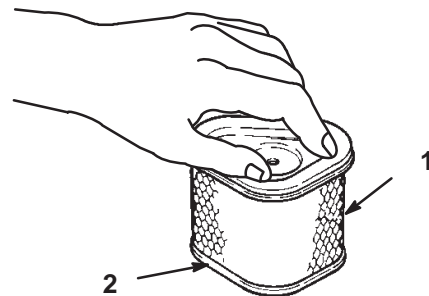

Figure 31
1. Inspect the element for tears, an oily film, and damage to the rubber seal (Fig. 31).